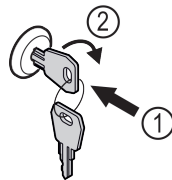

Fig. 167
- ▶ Insert key Fig. 167 (1).
- ▶ Turn key clockwise by 90° Fig. 167 (2).